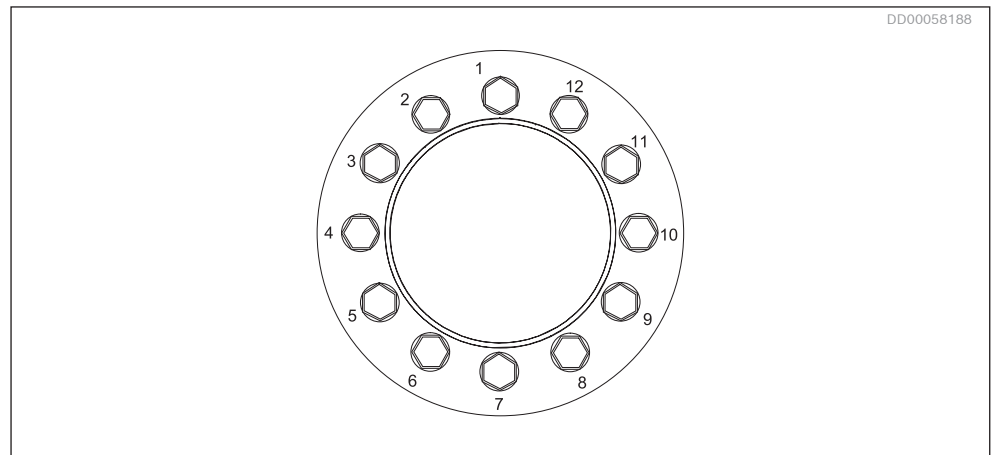

Fig. 45: Tightening order
5. Set the torque wrench to max 1/3 of the specified maximum torque for the coupling screws, tighten all bolts in sequence, shown in *Fig. 45*, for 2 or 3 passes. Increase the torque to max 2/3' of maximum torque and tighten the bolts another 2 or 3 of passes
7. Start tightening the screws in sequence shown in *Fig. 45*.